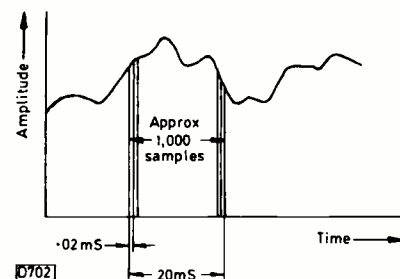

Fig. 1: ATRAC waveform sampling.
The ATRAC encoder on the other hand takes a snapshot of the audio every 20msec (see Fig. 1), each snapshot consisting of approximately 1,000 samples. These undergo a complex mathematical process known as Fourier Transform (FT) analysis, enabling non-sinusoidal waveforms (like digital pulses) to be broken down into signal components that vary in frequency, amplitude and phase. The various signals are analysed, and only those that are above a level specified by the FT algorithms are encoded.